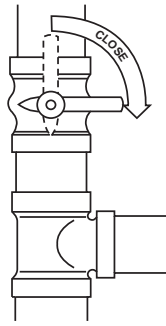

Fig. 4 – Close Valve
2. Close the external manual gas valve, see Fig. 4.